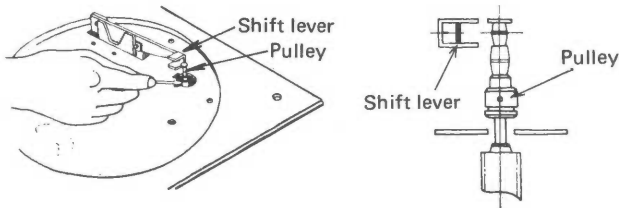

Fig. 22
2. When you replace the pulley, adjust the height of the new pulley so that the center of the shift lever is as shown in Fig. 22 when the speed selector knob is set to "33".